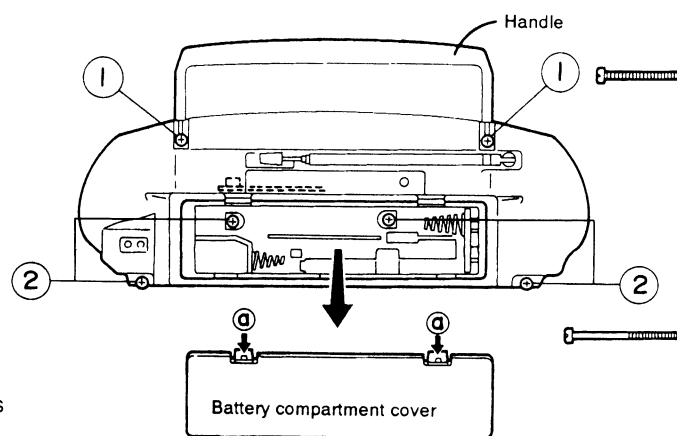

Fig. 2-1
(Figs. 2-1 to 2-4)
1. At the rear of the main unit, press the two claws ④ of the battery compartment cover downward to remove the battery cover (Fig. 2-1).
2. Remove the two handle mounting screws ① and the four rear cabinet mounting screws ②. Then remove the front and rear cabinet assemblies (Fig. 2-1).